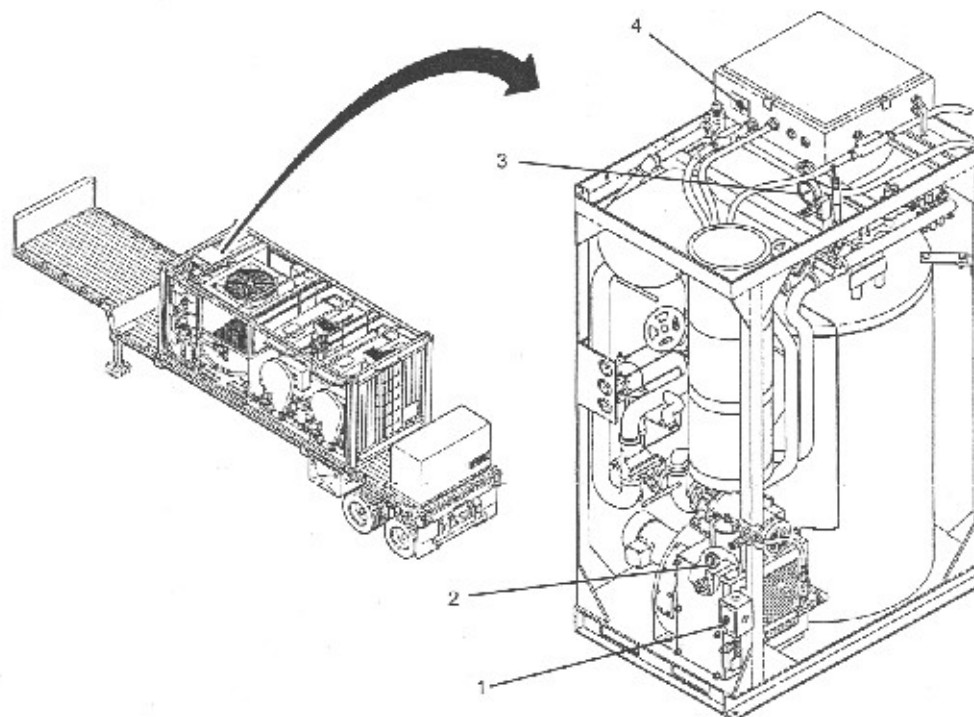

Figure 3-35
- d. HEATER CONTROLS AND INDICATORS, Figure 4 shows the location of the controls and indicators found on the heating system. Below describes the use of these controls and indicators. (See Figure 3-35)